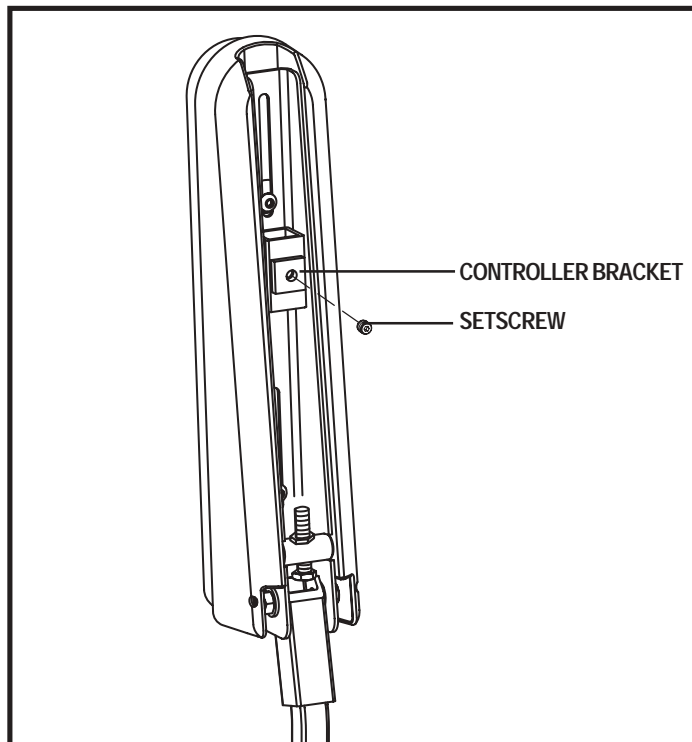

Figure 16. Underside of Armrest
2. Loosen the setscrew on the controller bracket. See figure 16.
6. Flip up the armrest and loosen the setscrew. See figure 16.